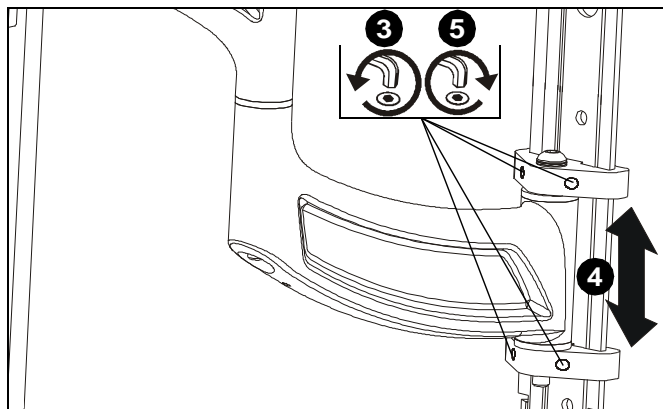

Figure 21
3. Use 1/8" hex key (U) to loosen four height adjustment screws. (See Figure 21)
4. Raise or lower mount until desired height is achieved. (See Figure 21)
5. Tighten four height adjustment screws. (See Figure 21)